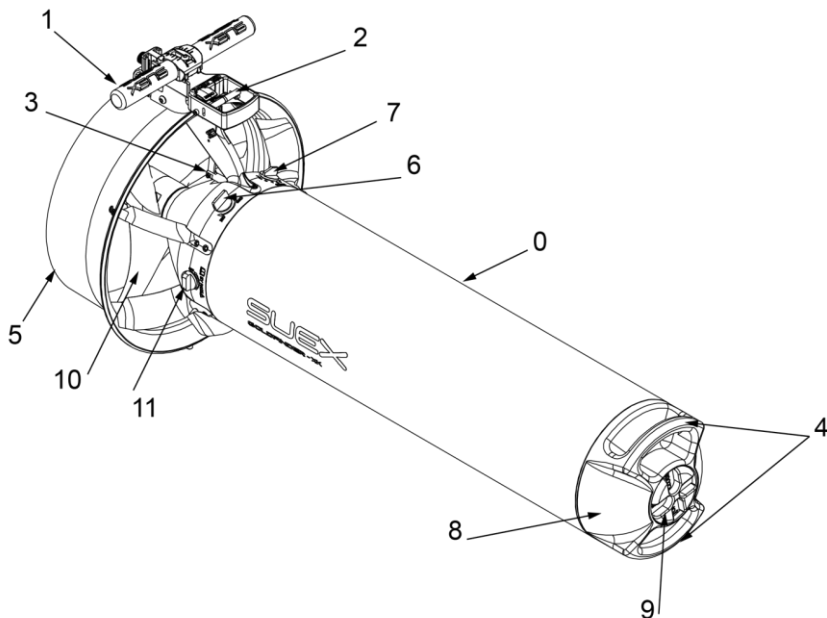

Fig 1 - Part description
The Goldfinder XJ underwater Scooter features a fully sealed, hydrodynamically shaped hollow body (Fig. 1). Enclosed within are the electric motor, rechargeable batteries, and speed reducer, which are essential for driving the propeller that generates propulsive thrust.
Examining the scooter, one can readily identify the central component known as the body (0), which is a hollow tubular structure (see Fig. 1). This central body houses the drive mechanisms and rechargeable battery essential for operation.